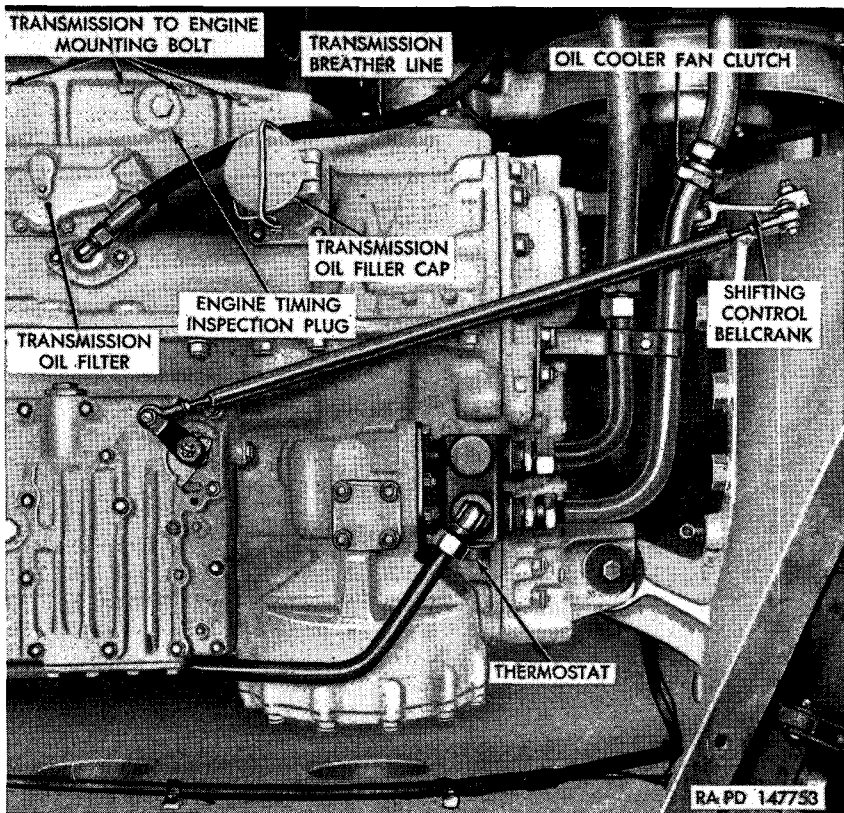

Figure 229. Right side of transmission—installed view.
- (2) *Lubrication system.* The cross-drive transmission is completely lubricated by the supply of oil poured into the sump through the oil filler neck under the transmission oil filler cap (fig. 229). The oil level should be maintained close to the "FULL" mark on the oil level gage. Check the oil level as indicated in *b* below.
b. CHECKING OIL LEVEL. Transmission oil level is checked by the oil level gage (bayonet type) located in the oil filler neck under the transmission oil filler cap (fig. 229).
- (2) *Fill transmission with oil.* Install drain plugs in transmission, install oil line at bottom of left oil cooler, and connect transmission oil line at bottom of right oil cooler. Install covers on hull bottom. Install vent plugs at top of oil cooler cores. Using oil as specified by the lubrication order (fig.
86), remove transmission oil filler cap (fig. 229) and oil level gage, and pour approximately 23 gallons of oil through the oil filler neck. Start engine and run for 2 or 3 minutes with manual control lever (fig. 10) in neutral position, to fill the torque converter and oil coolers. With the engine running add or drain oil as necessary to bring the oil level to or slightly above the "FULL" mark on the oil level gage. Install oil level gage and transmission oil filler cap. Close engine left and right compartment rear grille doors (fig. 101).
a. REMOVAL. Open engine compartment left and right rear grille doors (fig. 101). Remove 10 jam nuts, nuts, and washers and remove filter (fig. 229) from transmission housing. Strip off gasket.
c. INSTALLATION. Using a new gasket, position transmission oil filter on studs and secure with 10 washers, nuts, and jam nuts (fig. 229). Close engine compartment left and right rear grille doors (fig. 101).